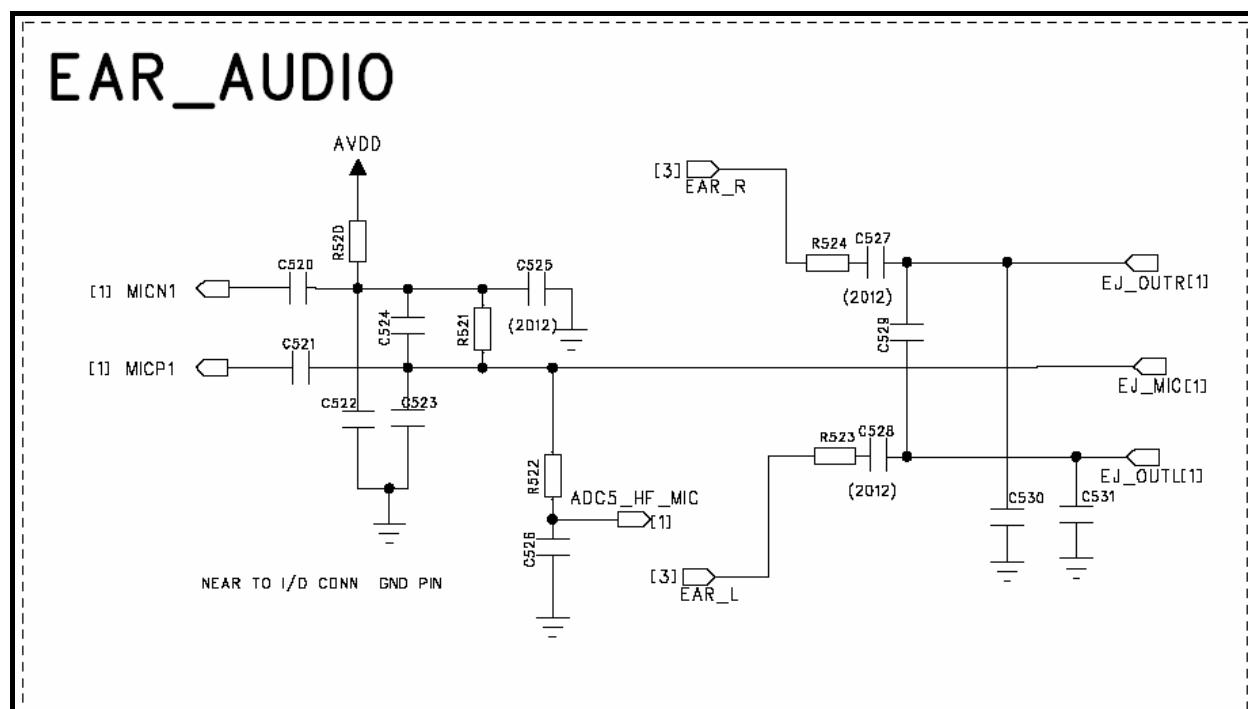

Figure 31. Headset Circuit diagram.
The Figure 31 is shown the Headset Circuit diagram. EJ_Mic is input and EJ_OUTR(L) is output.